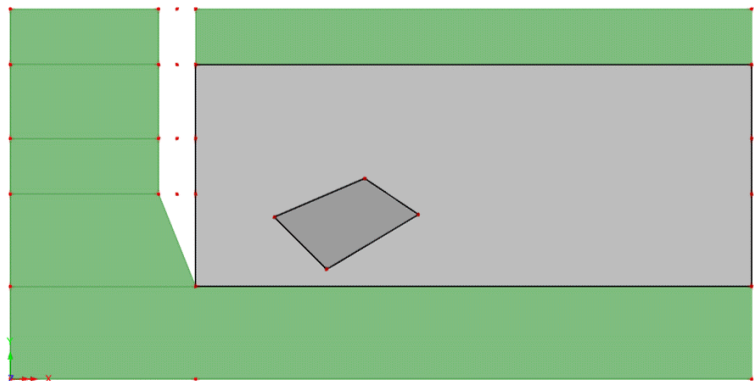

Figure 10: Definition of hole
- Select both the inner surface and surrounding surface. (figure 10)